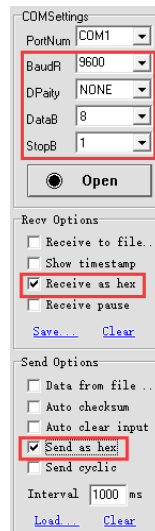

Fig 9.4.1 Set serial port parameters
- Configure the serial port parameters, as shown in Figure 9.4.1.